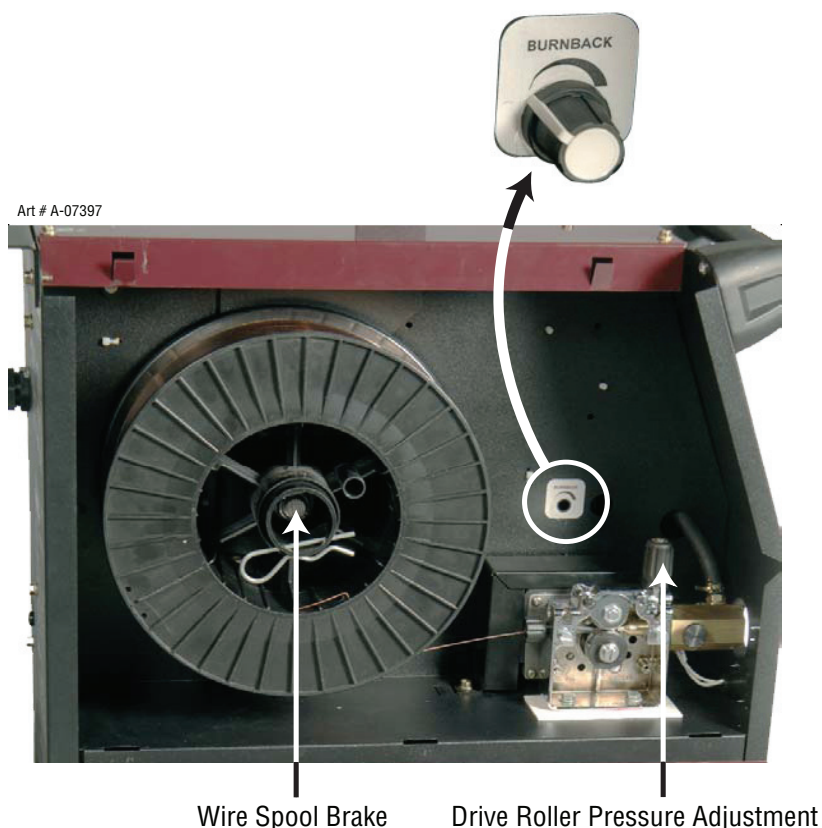

Figure 4-1: Inside Panel
1. **Burnback Control Knob:** Burnback time is the difference between the wirefeed motor stopping and switching off of the welding current. The Burnback time allows the electrode wire to burn out of the molten metal weld pool. The Burnback time is factory set for optimum performance. Turn the Burnback knob clockwise to increase the time and counter-clockwise to decrease it. The adjustable range is 0 to .6 seconds. Refer to Figure 4-1.